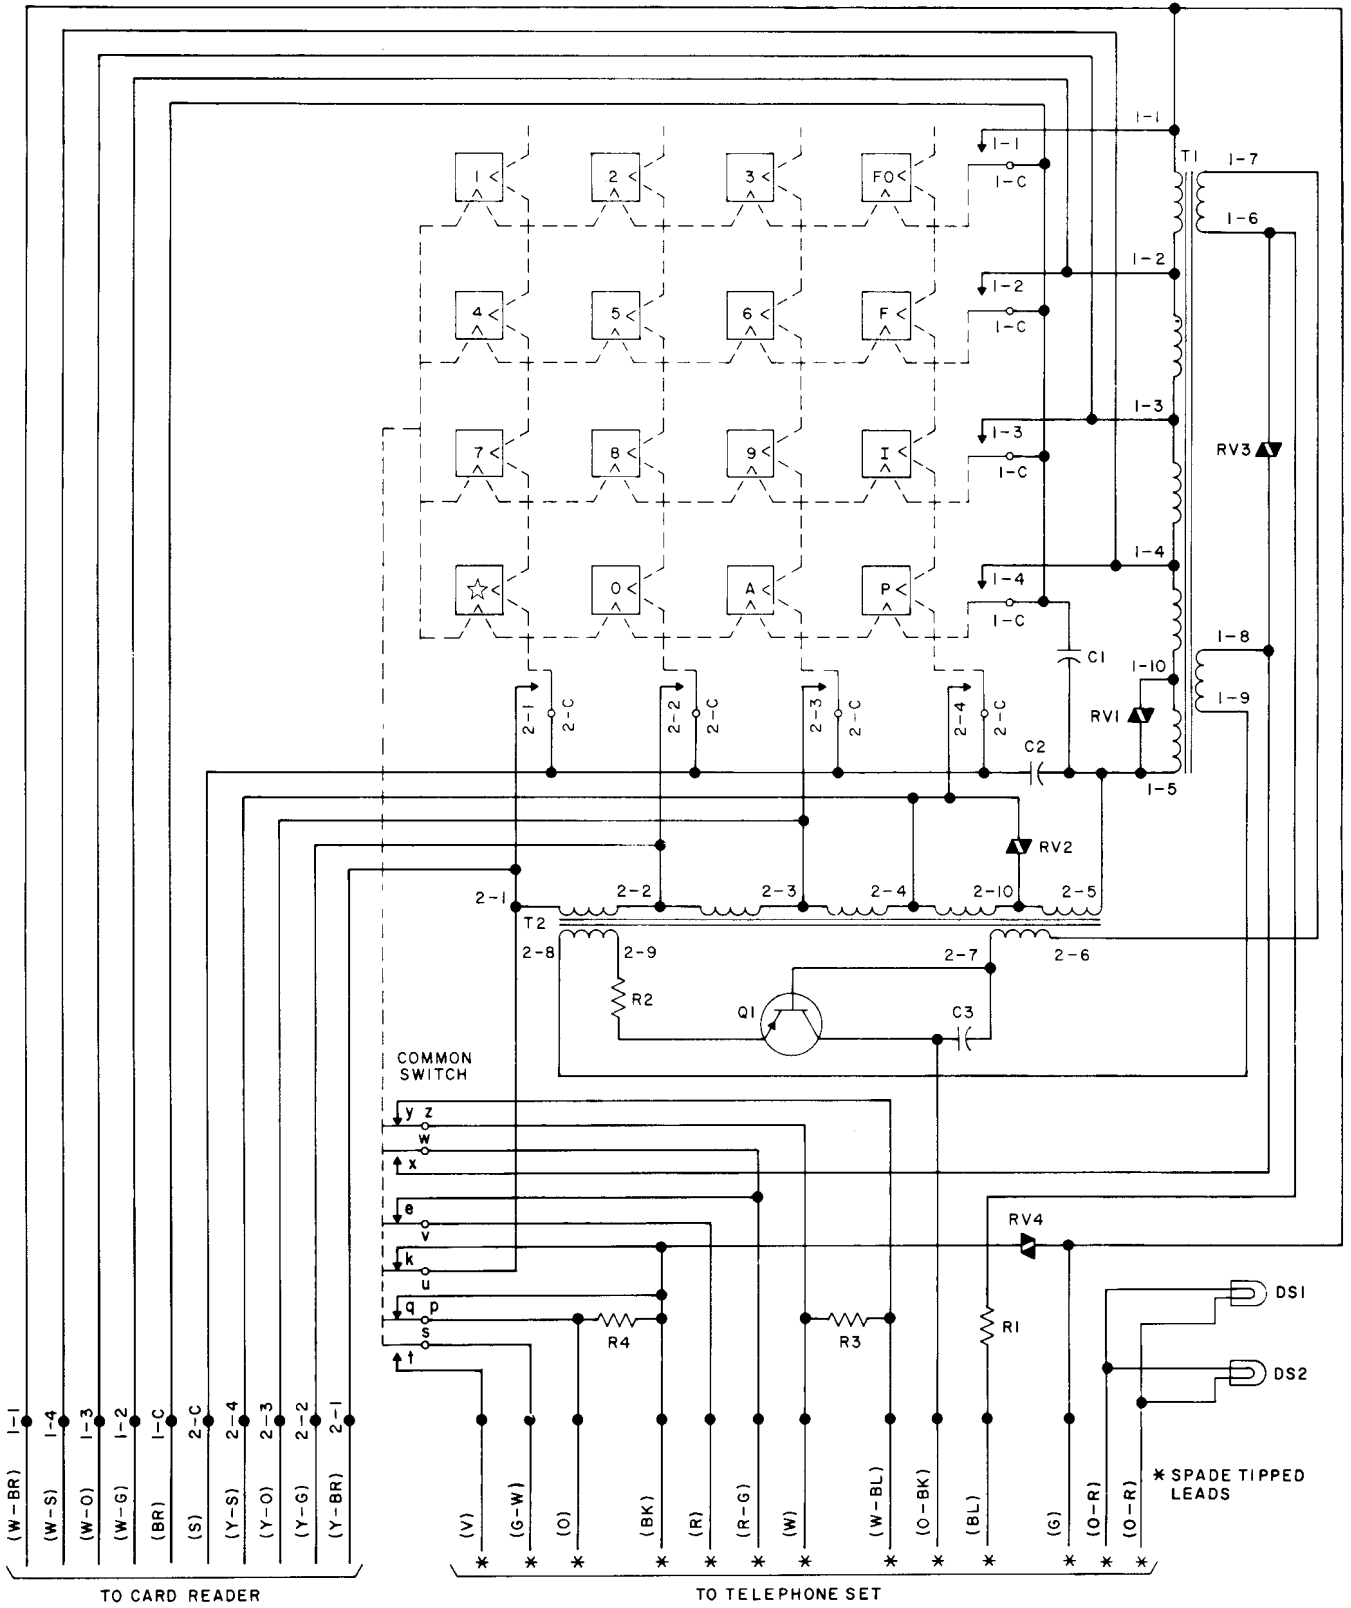

Fig. 11 — 66B4B Dial — Wiring Schematic
- Fig. 11 — 66B4B Dial — Wiring Schematic